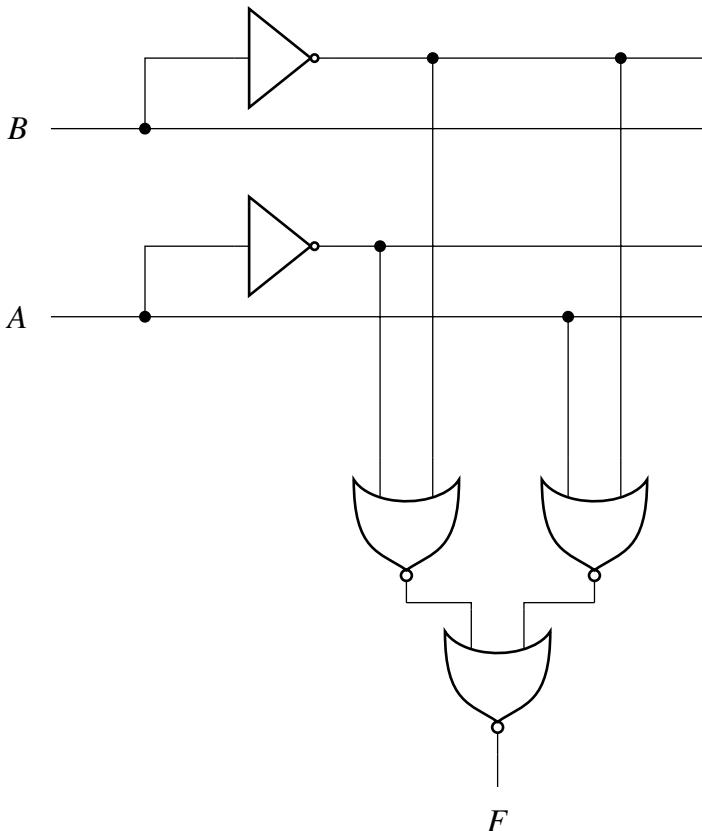

Fig. 4.13: Circuit
27. The logic block shown in Fig. 4.13 has an output F given by _____. (GATE IN 2022)